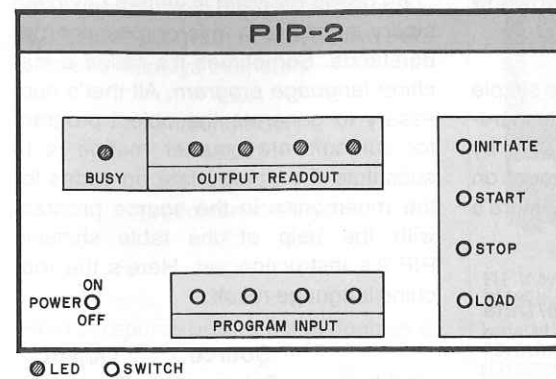

Fig. 2. Front-panel arrangement to facilitate operation of PIP-2.
**Input.** A row of four toggle switches, a LOAD switch and an INITIATE switch comprise PIP-2's INPUT. All these switches are shown in Fig. 2, a front-panel arrangement that allows PIP-2 to be used like a microcomputer.